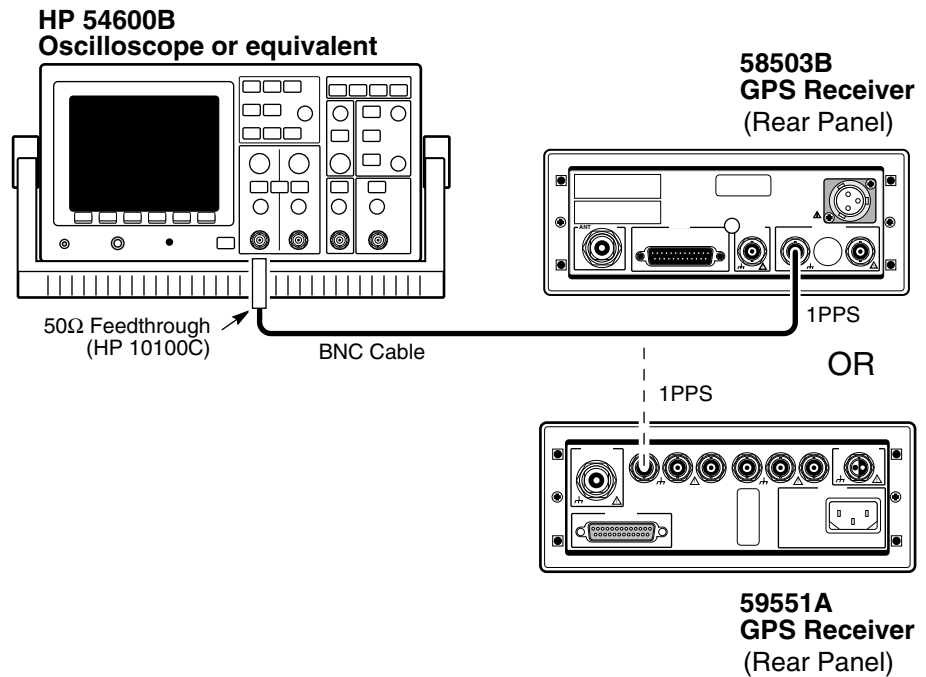

Figure D-2. 1 PPS Operational Verification Setup
- 2 Connect the oscilloscope to the rear-panel **1 PPS** output of the Receiver as shown in Figure D-2.